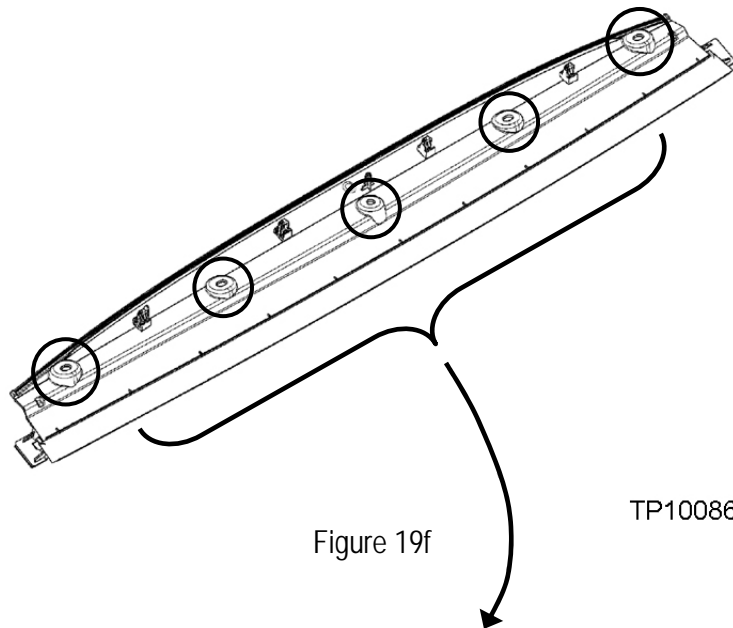

Figure 19f
22. Apply these pieces where shown in Figure 19f and 20f.